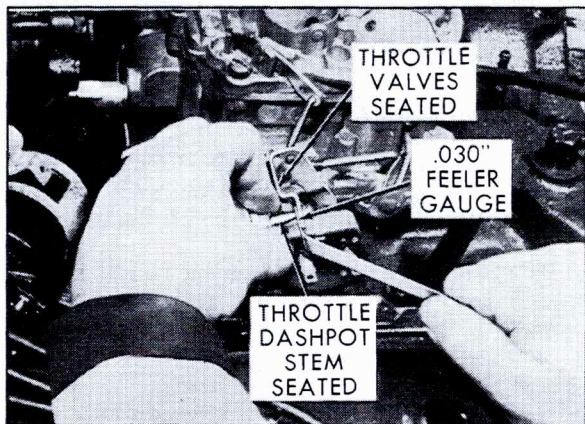

Fig. 6-94 Throttle Dashpot Adjustment
2. Loosen locknut securing dash pot shaft to bracket, Fig. 6-94 and unscrew dash pot from weld nut on bracket.
1. Install dash pot shaft with locknut into weld nut on mounting bracket, and secure with locknut, Fig. 6-94.
2. Hold dash pot stem completely into dash pot and insert a .030" feeler gage between dash pot stem and throttle adapter plate, Fig. 6-94. If clearance is greater or less than .030", proceed to step 3.